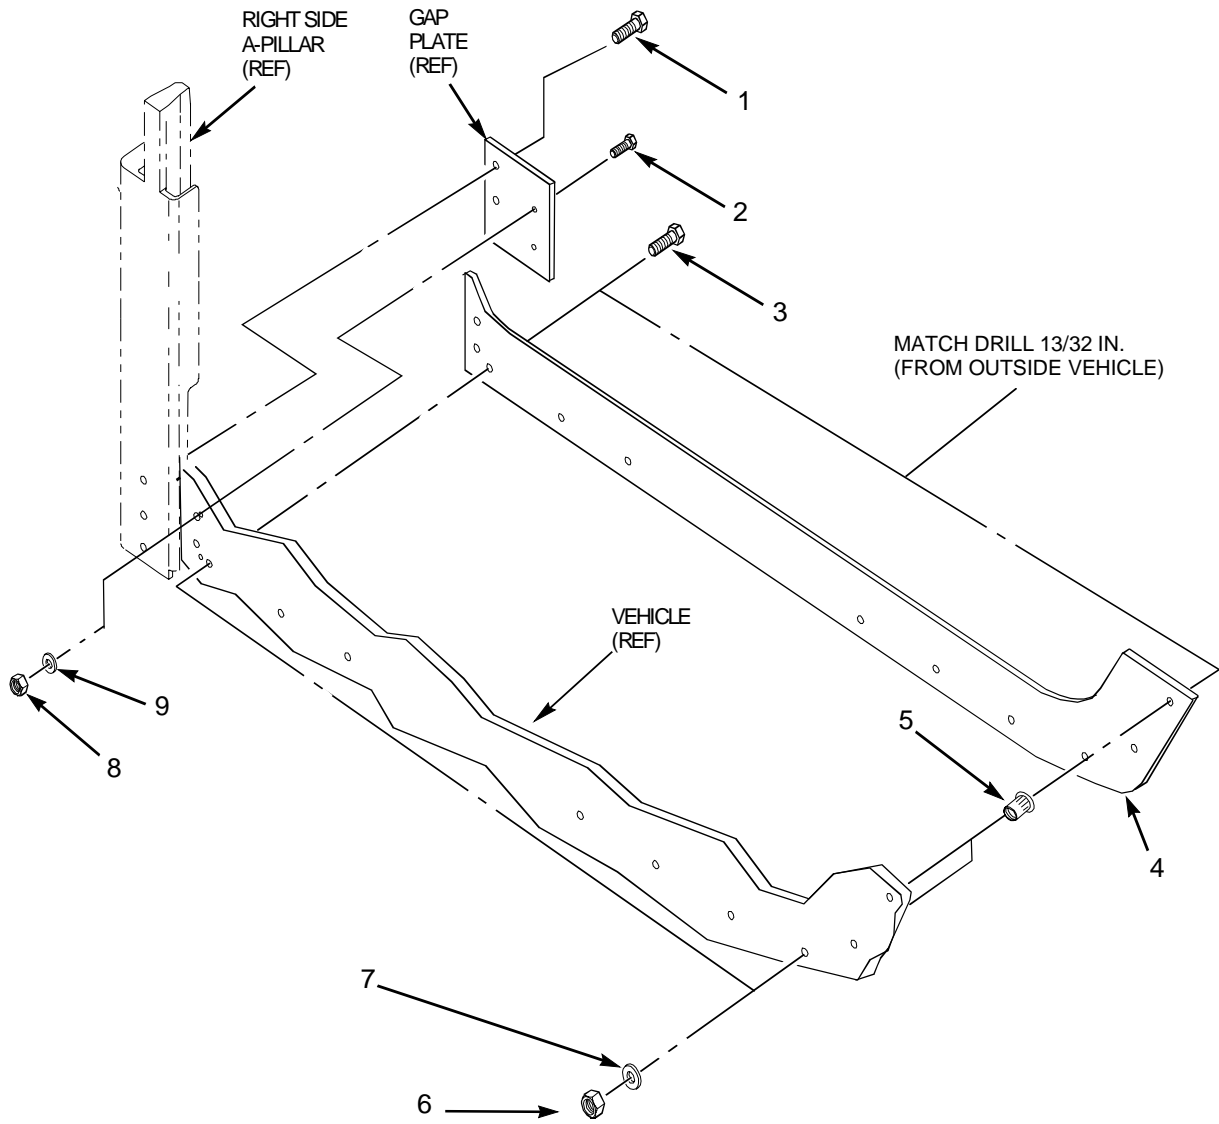

Figure 2-24. Right Rocker Panel Armor Removal (2 and 4 Door)
1. Remove right side rocker panel armor (see figure 2-24).
- a. Remove three capscrews (1).
- b. Remove two capscrews (2), washers (9), and locknuts (8). Discard locknuts (8). Remove gap plate.
- c. Remove nine capscrews (3), seven washers (7), and seven locknuts (6) securing left side rocker panel armor (4) to vehicle. Discard locknuts (6).
- d. Remove right side rocker panel armor (4).